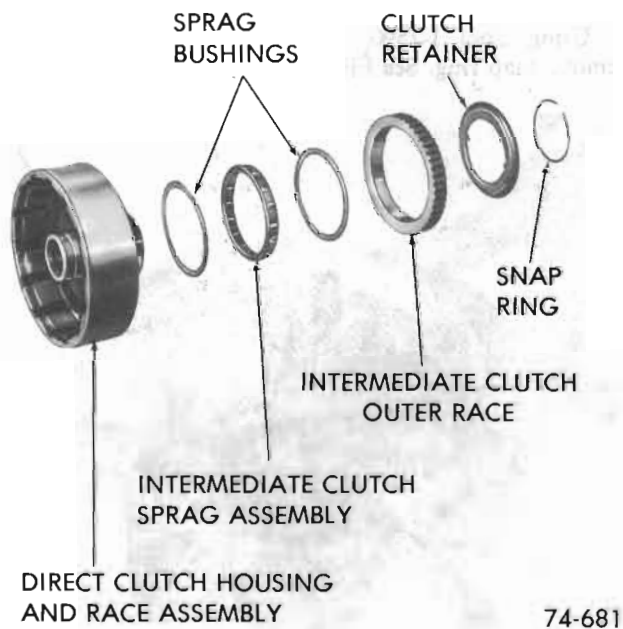

Figure 76-205
1. Inspect sprag assembly for popped or loose sprags. See Figure 76-205.